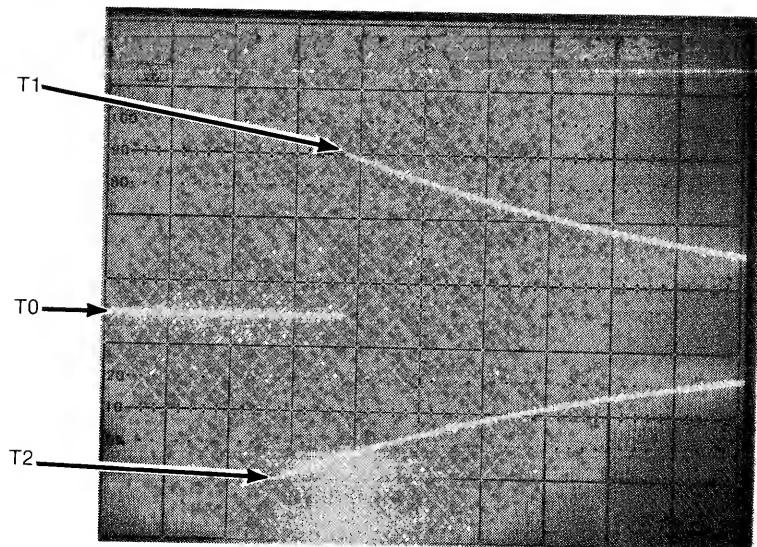

Figure 5-5. Track 0 Waveform
- f. With the scope connected and setup, the waveform should be similar to that of figure 5-5. The duration from T₀ to T₁ must be less than 18mS and the duration from T₀ to T₂ must be less than 24mS. If these times are within the limits, no adjustment is necessary. If either of the time limits is exceeded, proceed with steps (g) thru (l).
- k. With the torque driver adjusted to 8 inch-pounds, retighten the track 0 switch retaining screw while observing the oscilloscope pattern (refer to Figure 5-5).